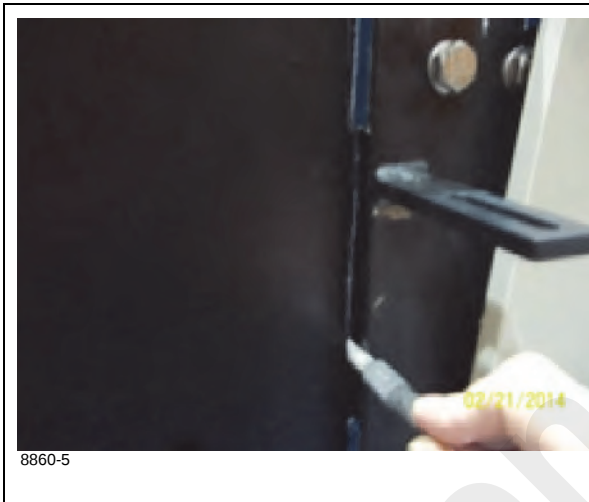
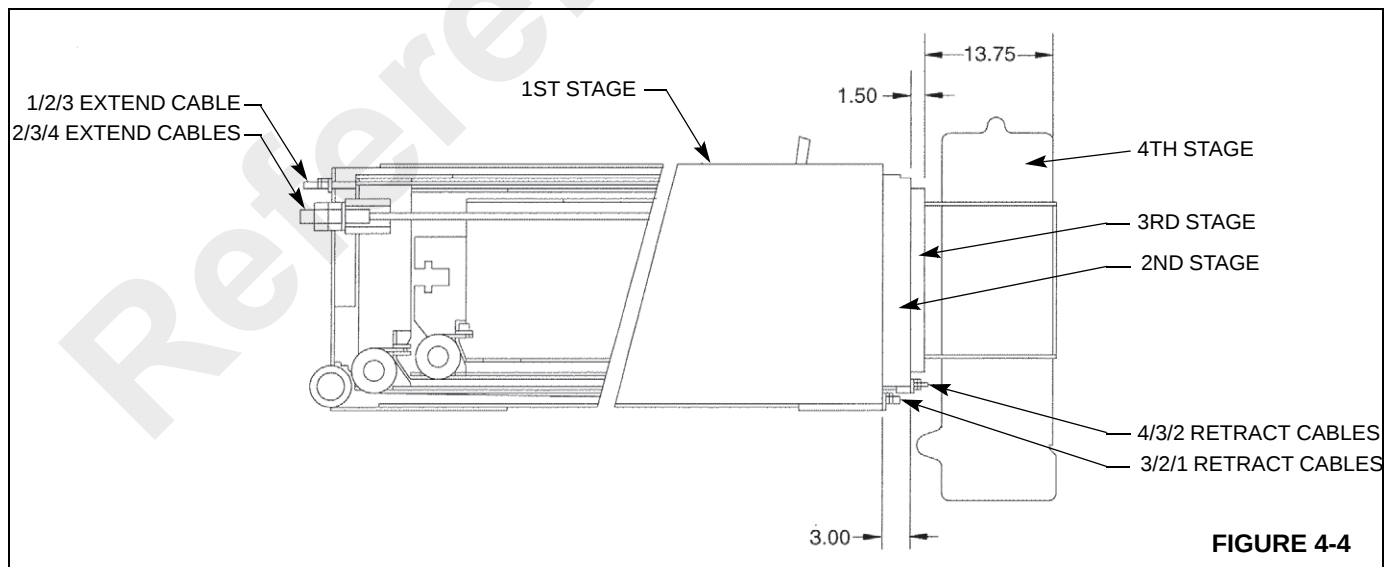

FIGURE 4-2
FIGURE 4-4
Reference Figure 4-1, Figure 4-2, Figure 4-4 and Figure 4-5 for Boom Removal, Disassembly, Assembly and Cable Tensioning.
Tensioning must be done with the boom in the horizontal position. reference Figure 4-4
1. Mark the front of each section with a chalk line as indicated in Figure 4-2.